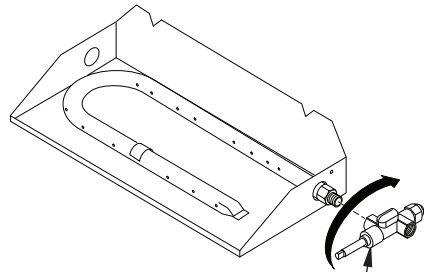

Figure 9
4. Thread the gas control valve onto the burner air mixer. Use pipe sealant on the male threads of the burner air mixer. Hold the burner air mixer with a wrench to prevent overtightening the connection to the burner. Make sure the control rod is facing the front as shown in Figure 9.